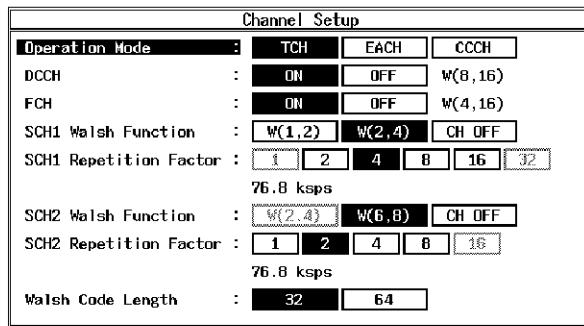
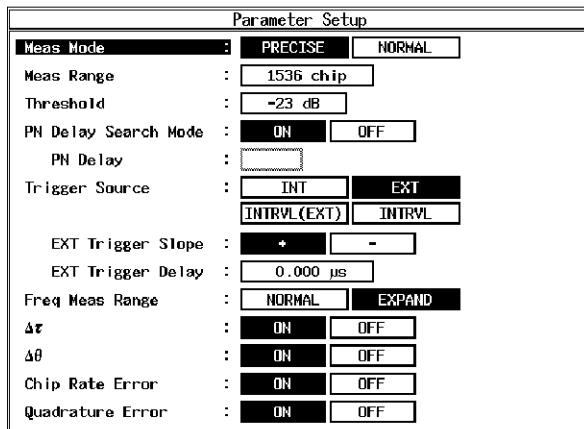

Figure 6-6 Displaying the Channel Setup for Code Domain Power (REVERSE Link)
Figure 6-7 Setting of Measurement Parameters for Code Domain Power (REVERSE Link)
6. On the R3267 Series, set the measurement parameters as shown in Figure 6-6 and Figure 6-7.